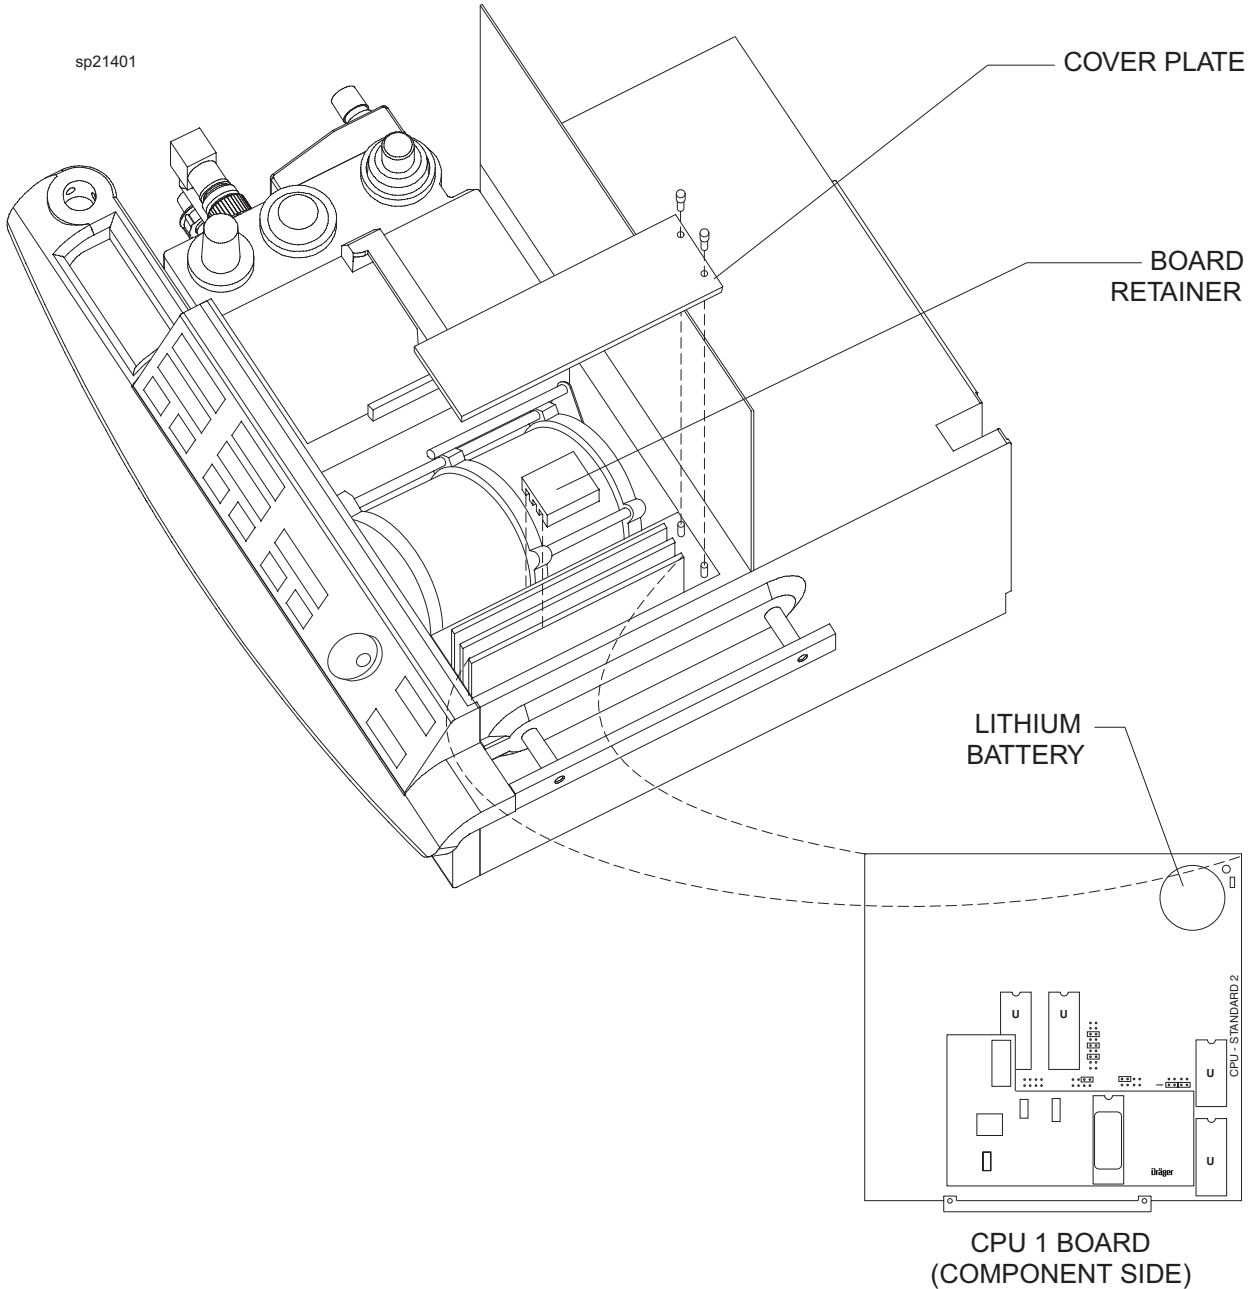

FIGURE 1. CPU1 Location
- 2.9 Identify the location of CPU1 at the Divan's extreme right position. See Figure 1.